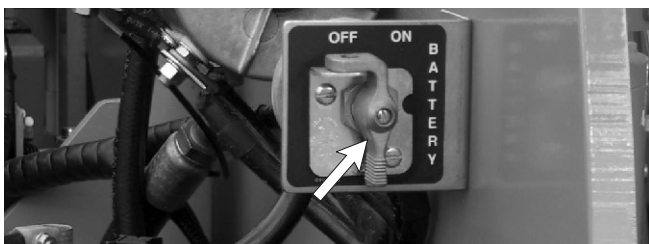

Figure 6.19—Battery Disconnect Switch
Place the battery disconnect switch in the on position (see Figure 6.19) and pull the emergency stop button out on the lower control panel.
Place the battery disconnect switch in the on position (see Figure 6.19) and pull the emergency stop button^① out to turn on the electrical power. Operate the emergency power switch^② to operate the aerial platform from the upper controls using the emergency power system.